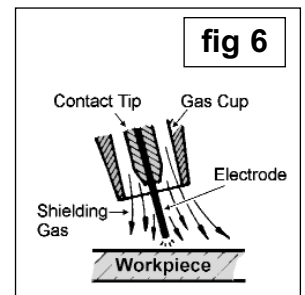

fig 6
- 4.1. **Mig/Mag welding (see fig 6).** The gun consists of a spool holder, switch, liner, gas hose and wire feed system. A spool of welding wire is placed into the spool holder and is automatically fed through to the torch tip. The switch activates the wire feed roller and the gas flow. Releasing the switch stops wire feed and gas flow. The weld current is transferred to the electrode (the wire) from the contact tip at the torch end. The wire speed will be automatically adjusted according to power output. (The wire speed can also be manually adjusted). The higher the current the faster the wire speed. A gas cup fits over the contact tip to direct gas flow towards the weld ensuring the arc welding process is shielded from oxidising air contamination (fig 6). The shielding gas also assists heating of the weld. The torch is connected to the positive side of a DC rectifier and the negative clamp is attached to the workpiece.